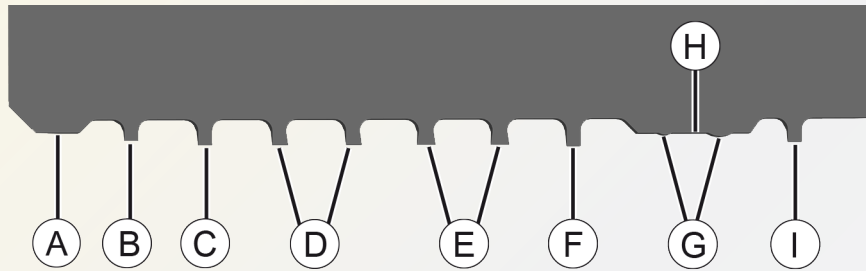

Fig. 4: Detailed view for plate for mechanical roughening
5. Loosen the two cheese-head screws (6) at the clamping strip (4) by approx. half a turn. Set the diameter at the measuring distance (see figure 4) via the adjusting screw (9) to 0.05 mm before the setting dimension (in diameter) using an SW 3 Allen key. By turning the adjusting screw (9) to the right, the diameter size can be reduced, and by turning to the left it is increased.
8. Set the profile teeth (teeth 3-6, see figure 4) to one level by means of the two adjusting screws of the threaded key adjustment (5). The teeth 5, 4 and 3 must deviate from tooth 6 by max. 5  $\mu\text{m}$ .
- Loosen the two cheese-head screws (6) at the clamping strip (4) by approx. half a turn.
Set the diameter at the measuring distance (see figure 4) via the adjusting screw (9) to the setting dimension.
- Tighten the two cheese-head screws (6) at the clamping strip (4) gradually and alternately until a torque of 3 Nm is reached. Please make sure that the diameter set in step 9 is changed the least possible. Use a torque wrench with a hexagon socket wrench (SW 3).
- Check the profile teeth on their straightness. To do so, measure the deviations of the height from tooth 6 to teeth 5, 4 and 3. Teeth 5, 4 and 3 must not deviate more than 5  $\mu\text{m}$  from tooth 6 (see figure 4)
- Check the side clearance from tooth 7 to tooth 6. The roughening tooth (tooth 7) must be 20  $\mu\text{m} \pm 5 \mu\text{m}$  above tooth 6 (see figure 4).